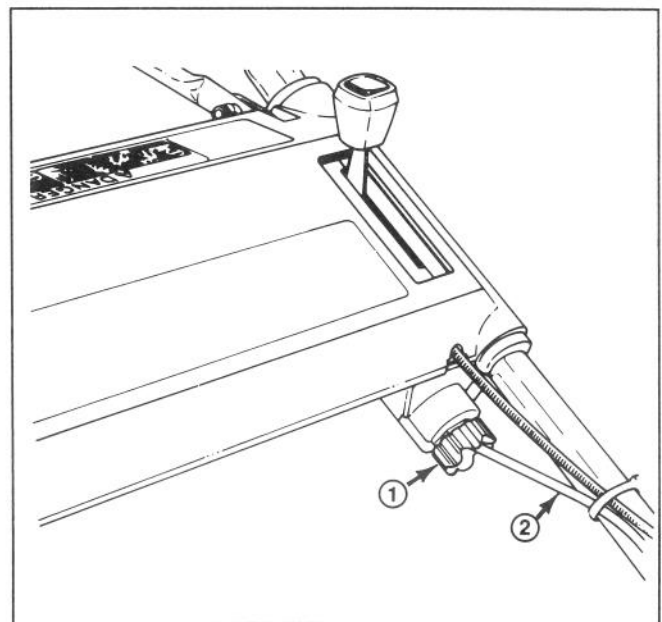

Figure 20
2. Rotate adjustment knob (Fig. 20) 1/2 turn clockwise to tighten drive belt, or 1/2 turn counterclockwise to loosen belt. Hold control cable while rotating to prevent cable from turning.